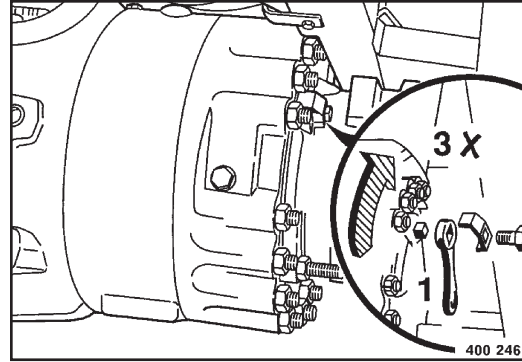

Fig. 169
- To adjust the clearance turn the square 1 (Fig. 169) three revolutions back in clockwise direction.